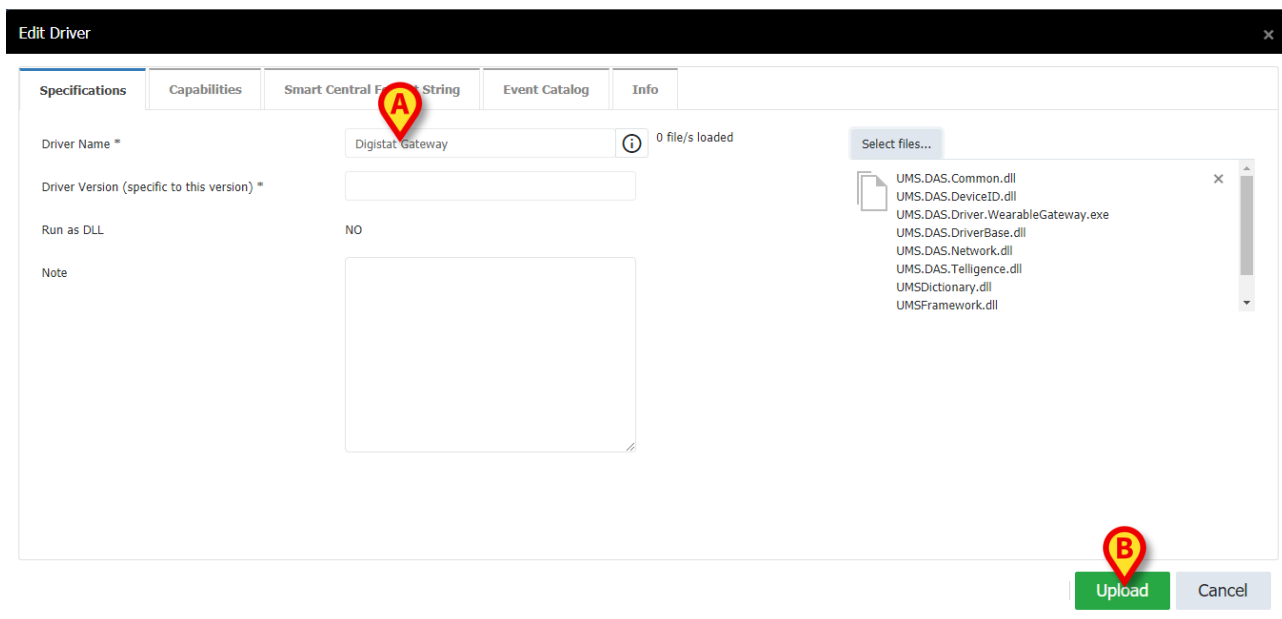

Fig 14
The **Edit Driver** window opens (Fig 14).
- Set the driver name as "Digistat Gateway" (Fig 14 **A**) and upload the files from the server workstation "C:\Digistat\Server\Drivers\DigistatGateway" folder by clicking the **Upload** button (Fig 14 **B**).